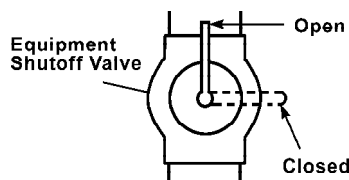

Figure 13 -Equipment Shutoff Valve
1. Close equipment shutoff valve (see Figure 13).
1. Open equipment shutoff valve (see Figure 13).